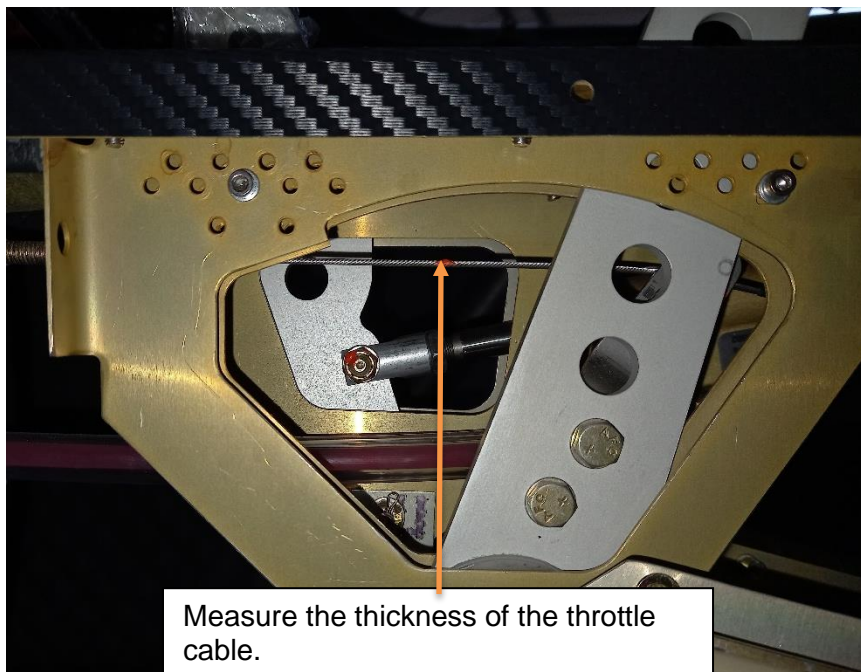

Figure 1: Throttle cable to be measured
- Step 3. Once the panel has been removed, use a vernier calliper to measure the throttle cable thickness. Refer to *Figure 1*.